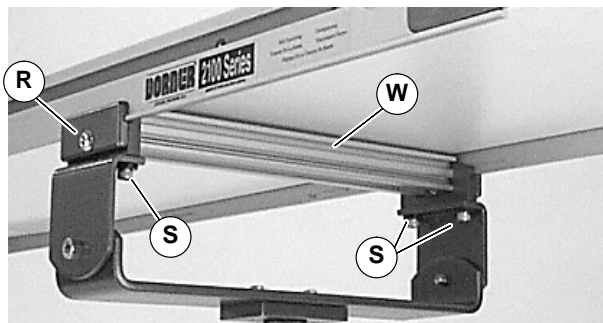

Figure 12
3. Install assembly (W of Figure 12) on bottom of conveyor. Align assembly perpendicular to conveyor or frame. Tighten bracket screws (R): Tighten M8 screws to 80 in-lb (9 Nm). Tighten 5/16 screws to 150 in-lb (17 Nm).